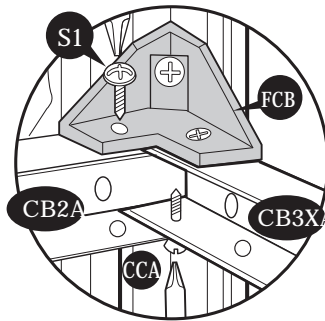

Fig. 2: Use (S1) screws. Fix (CB2A) to (FCB) and (CB3XA)
18. Stabilize the side panels with center bands (CB2A) & (CB3XA). Fix (FCB) fitting to corner column (CCA). See Fig.1 Follow the Fig. 2, 3, 4, 5 & 6.